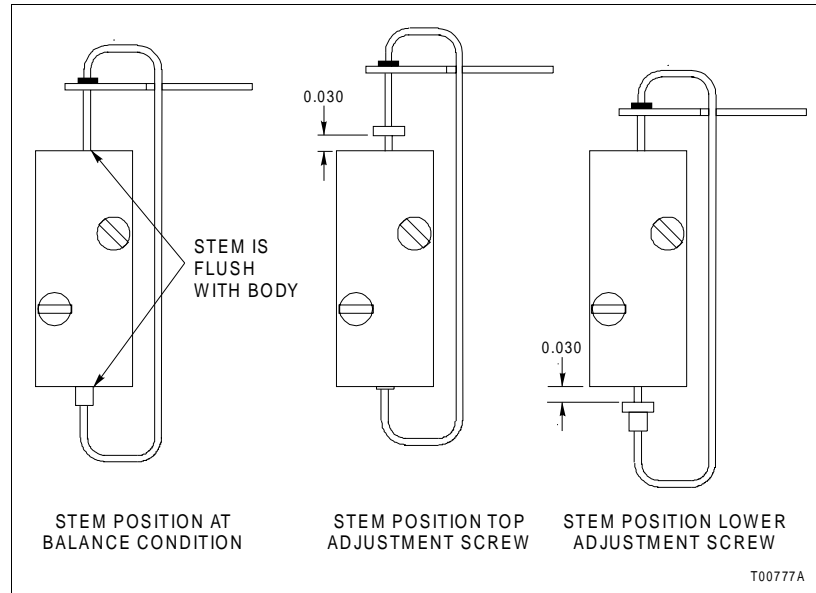
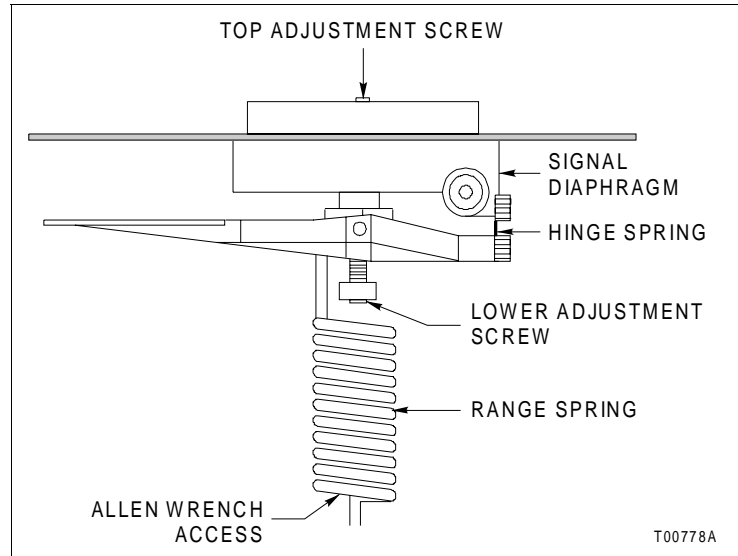

Figure 4-6. Pilot Valve Measurement for Maximum Speed
Figure 4-7. Speed Adjustment Screw Locations
The pilot valve stroke is measured by the movement (displacement) of the pilot valve stem. Figure 4-6 shows the maximum stroke length which is also the maximum speed of operation and
1. To reduce the stroke speed, use a $\frac{3}{32}$ -inch Allen wrench. Turn the top adjustment screw clockwise $\frac{1}{8}$ of a turn to reduce stroke time (Fig. 4-7). ABB suggests $\frac{1}{8}$ -turn increments. Take note of the number of turns. In total, do not exceed one full turn (clockwise) from the factory setting (Fig. 4-6). This adjustment controls the amount of air going to port 01.
2. Use a $\frac{3}{32}$ -inch Allen wrench (the wrench must be at least 5-inches long). Turn the lower adjustment screw clockwise the same amount as the top to insure speed of operation is the same in both directions. Be careful when accessing the lower adjustment screw. Insert the Allen wrench up through the bottom of the range spring (Fig. 4-7). This adjustment controls the amount of air going to port 02.